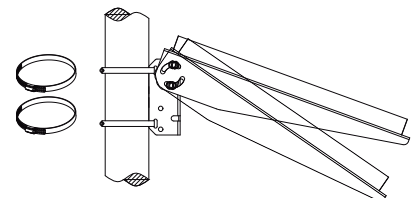

figure 2
**Step4.** For pole mounting, use hose clamps( not included) to fix the PV module and mount assembly securely to the pole. See figure 2. The U-Bolts, Steel Clamps and Molly Bolts are not included in the kit